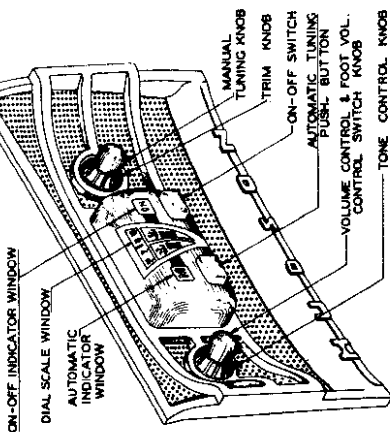

Fig. 1. Operating Controls.
11. Fasten the controls in place as shown in figure 1.